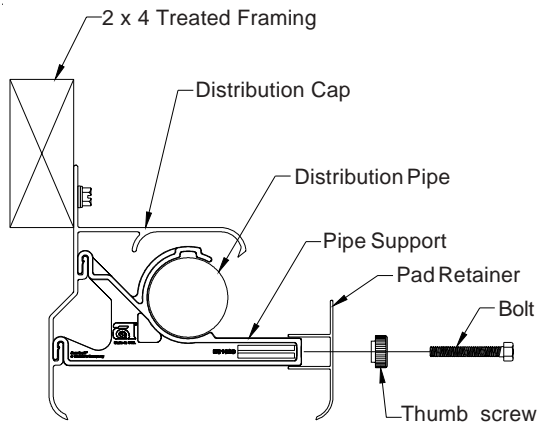

Figure 17A
24) Slide pad retainer onto pipe supports and fasten in place with bolt and thumb knob. **See Figure 17A.** Slide pipe supports for alignment with pad retainer. Over tightening the pad retainer bolts will cause the pad retainer to tilt inward.